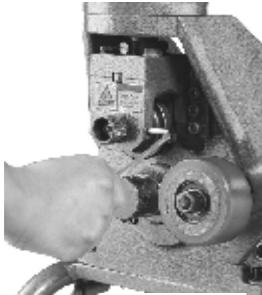

Fig.13
8. For the replacement of pinch roller, you shall return the pinch roller holder to the highest position and remove the screws of pinch roller holder's side, before pulling out the roller shaft while holding the roller with your hand (See Fig. 13- Fig. 14). For the relocating of pinch roller,you shall loosen 2 bolts on the slide and turn the adjustment bolts to move the pinch roller forward/backward. Refer to Fig.9 for specific location requirements. Followed by tightening the 2 bolts (See Fig. 15- Fig. 16).